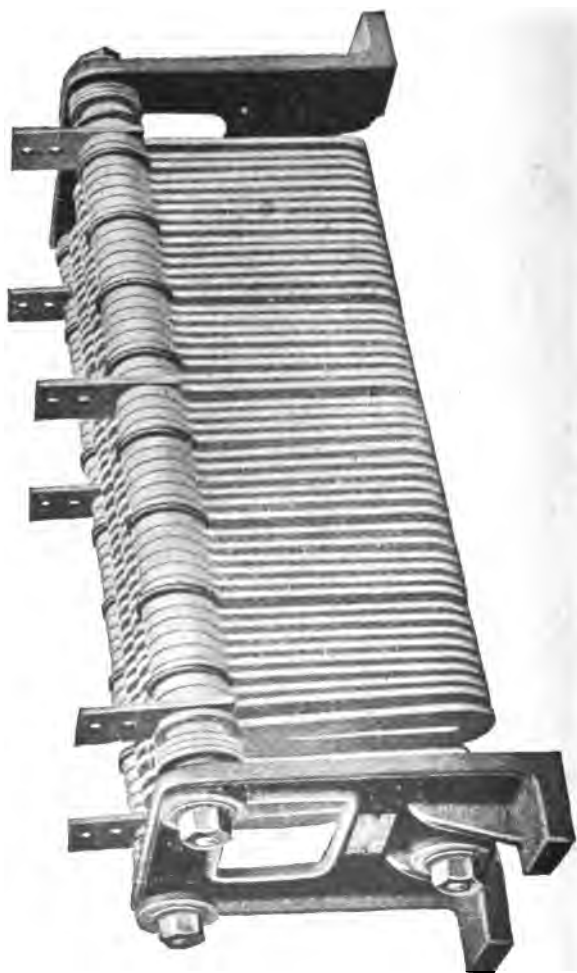

Fig. 506. Grid Resistance
50. THE MOTOR CONTROL RHEOSTATS (Fig. 506) are similar to those described under paragraph 10, Suburban Cars. These rheostats are located in four groups on the floor in end compartment of cab, under the contactors.